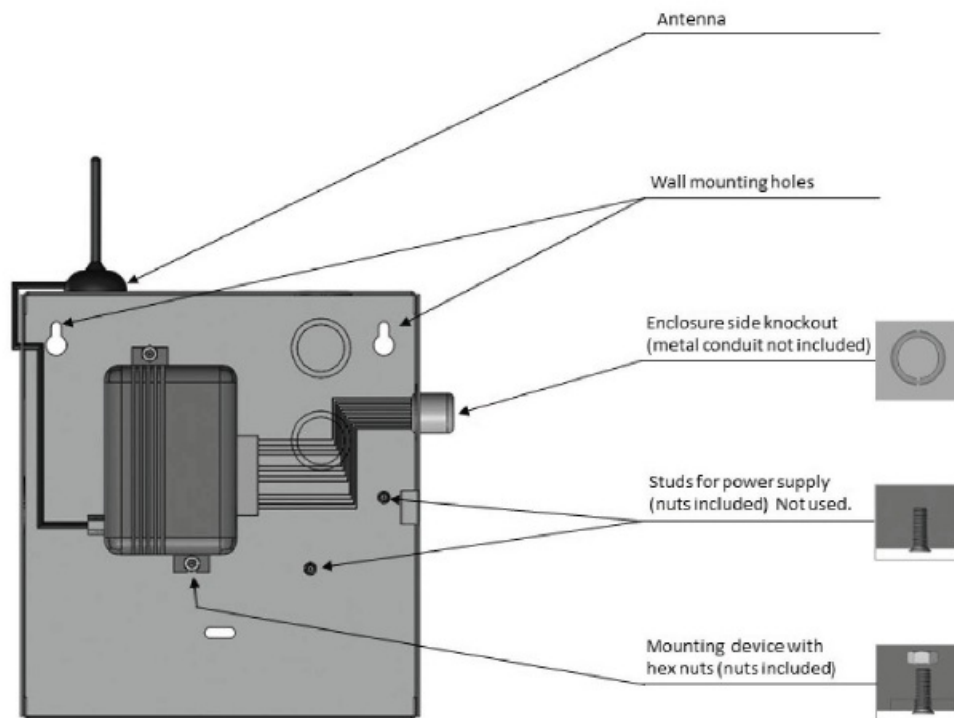

Figure 1 Mounting the Communicator into the Enclosure
1. If using the HW-AV-ENC enclosure, mount it onto the two mounting holes as shown in Figure 1 and secure it with the hardware supplied with the enclosure.
- Mount the communicator inside an enclosure, for example HW-AV-ENC, as shown in Figure 1 below.
5. If using the HW-AV-ENC enclosure, mount it onto the two mounting holes as shown in Figure 1 and secure it